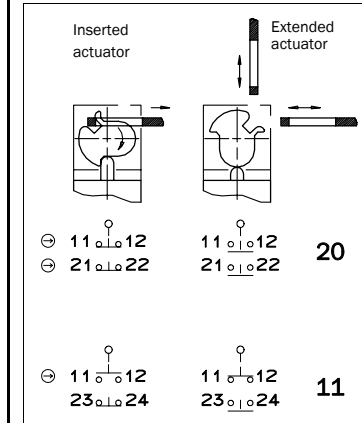

Fig. 6: Switching elements and switching functions for variants with M20 cable entry
- Contact assignments see Fig. 6.